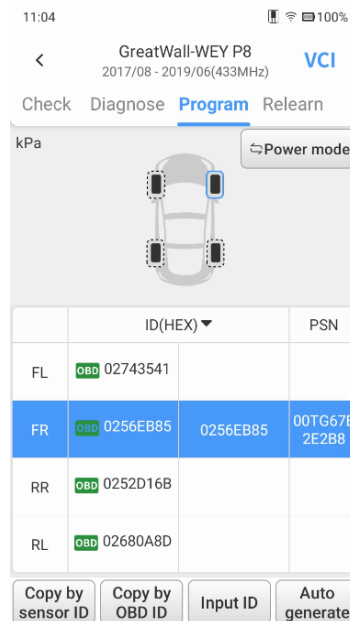

Figure 3-12 OBD copy interface diagram
2. After programming is completed, the programmed ID will be displayed in the second column to the right of the corresponding wheel. In Figure 3-12, the new ID appears in the second column to the right of "Right Front." Recommend to use the "Copy by OBD ID" function to program new Lonsdor sensors.